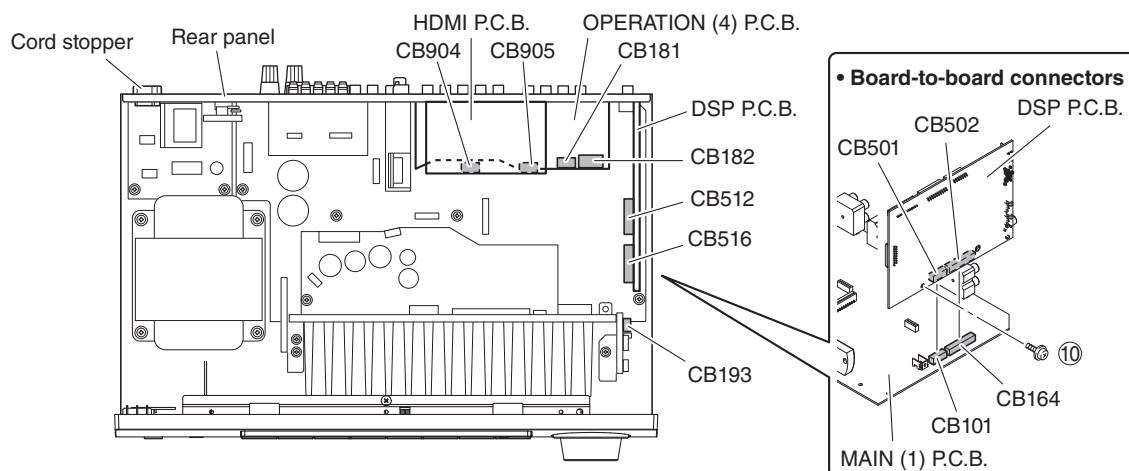

Fig. 2
- Remove CB904 and CB905. (Fig. 2)
- Remove the HDMI P.C.B.. (Fig. 2)
4. Removal of OPERATION (4) P.C.B.
- Remove CB181–182 and CB193. (Fig. 2)
- Remove the OPERATION (4) P.C.B.. (Fig. 2)
- Remove the cord stopper. (Fig. 2)
- Remove the rear panel. (Fig. 2)
- Remove screw (⑩). (Fig. 2)
- Remove CB512 and CB516. (Fig. 2)
- Remove the DSP P.C.B. which is connected directly to the MAIN (1) P.C.B. with board-to-board connectors. (Fig. 2)